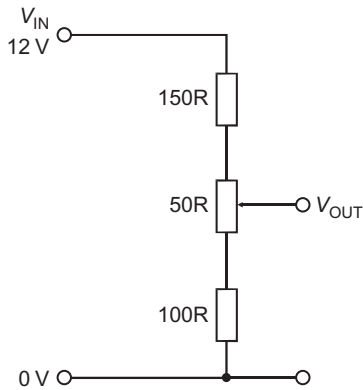

FIGURE 15.22
- 32 (a) In the circuit in Figure 15.22 what are the lowest and highest obtainable values of  $V_{OUT}$ ? (b) If a load of 50  $\Omega$  is connected between the output terminal and the 0 V line, what is the highest obtainable value of  $V_{OUT}$ ?